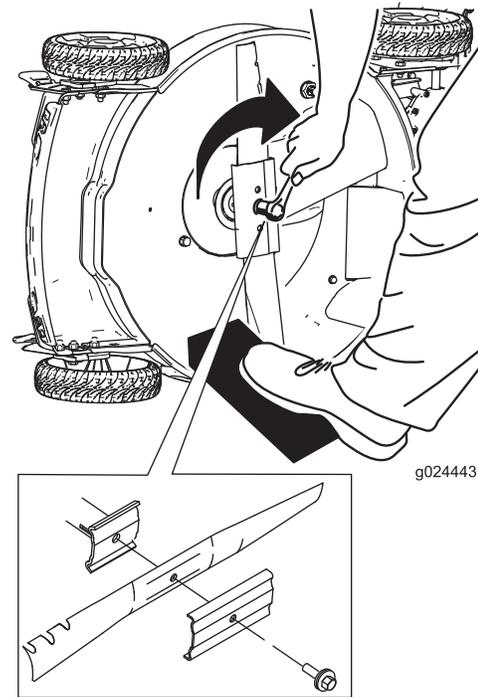

Figure 25
5. Install the new blade by turning the blade bolt clockwise (Figure 25).